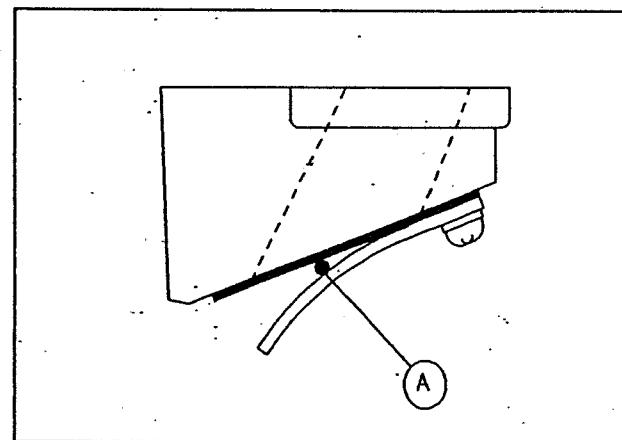

Fig 3.98
The reed valve is located on the inside of the inlet port. Before securing the cylinder to the crankcase, examine the reed valve carefully, make sure that there is no foreign matter (A) stuck between reed valve and valve stopper (fig 3.98). Poor engine performance is often due to neglect of this attention.